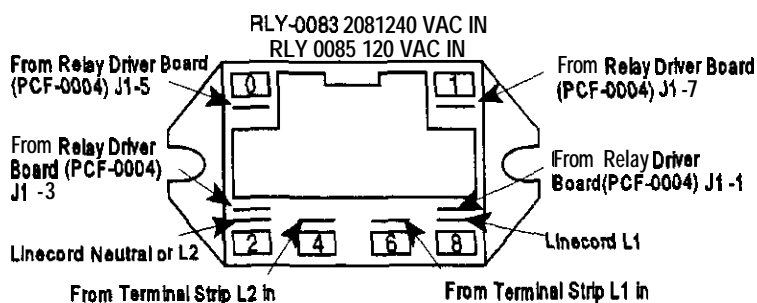

Figure 20
- Label the wires connected to the relay with the terminal numbers **they** are connected to. (See Figure 20.) Disconnect the wires from the relay.